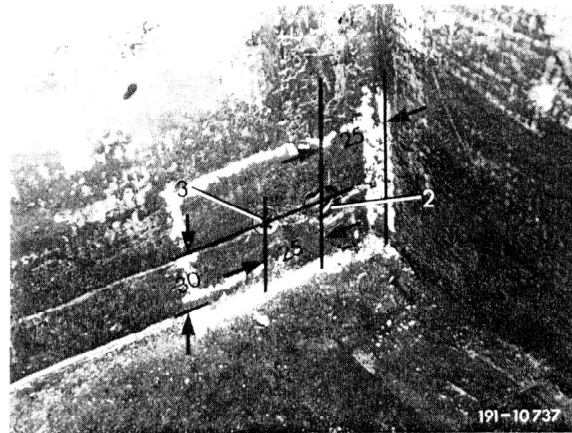

Figure 8
18. Using modified threaded plate "b" as a template, mark and drill holes (2 and 3, 14 mm and 7 mm diameter, respectively) on the side of the transmission tunnel (Figure 8).
18.1 Mount threaded plate "b" from behind the tunnel with screw (3, Figure 8).